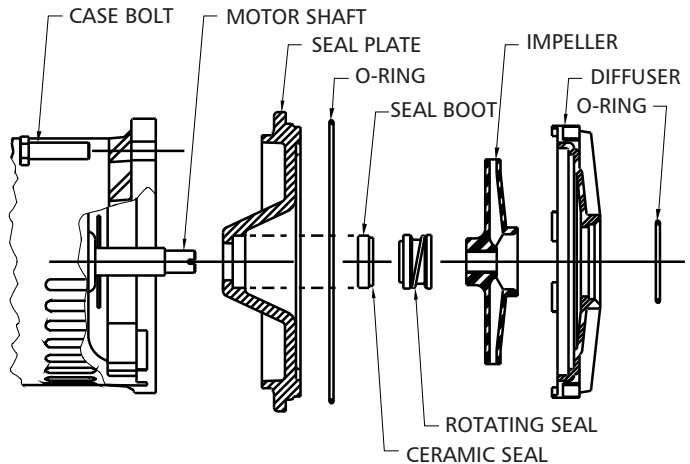

FIGURE 3
9. Slide rotating part of seal assembly from shaft (as shown in Figure 3). Separate seal plate from motor.